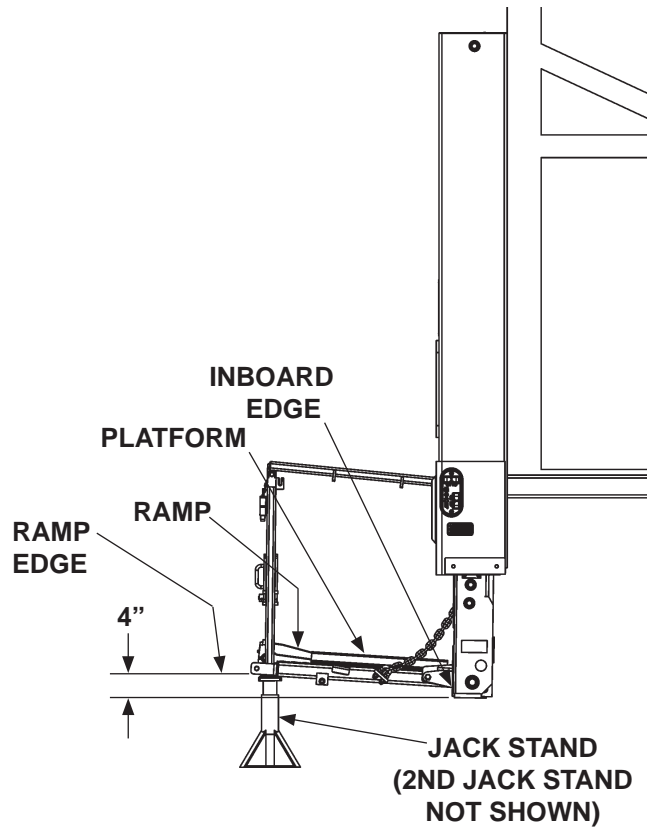

FIG. 26-1
1. Lower the platform (**DOWN**) to approximately 12" above the ground. Support platform with 2 jack stands (**FIG. 26-1**). Make sure ramp edge is 4" higher than inboard edge of platform.